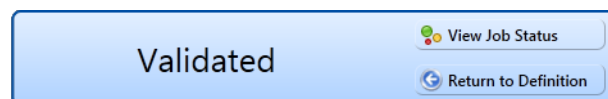

Figure 10-53. Validated Message
- 23 To validate the definition, click the  **Prevalidate** button. When the validation process completes and the following message displays, click  **View Job Status** or  **Return to Definition** (Figure 10-53).